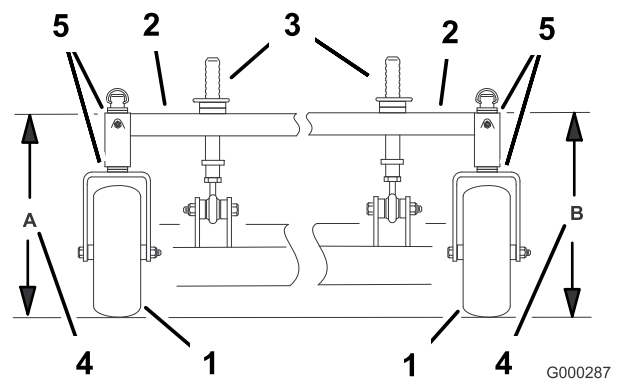

Figure 72
- Measure carrier frame height at location **A** (Figure 72).
- Measure carrier frame height at location **B** (Figure 72).